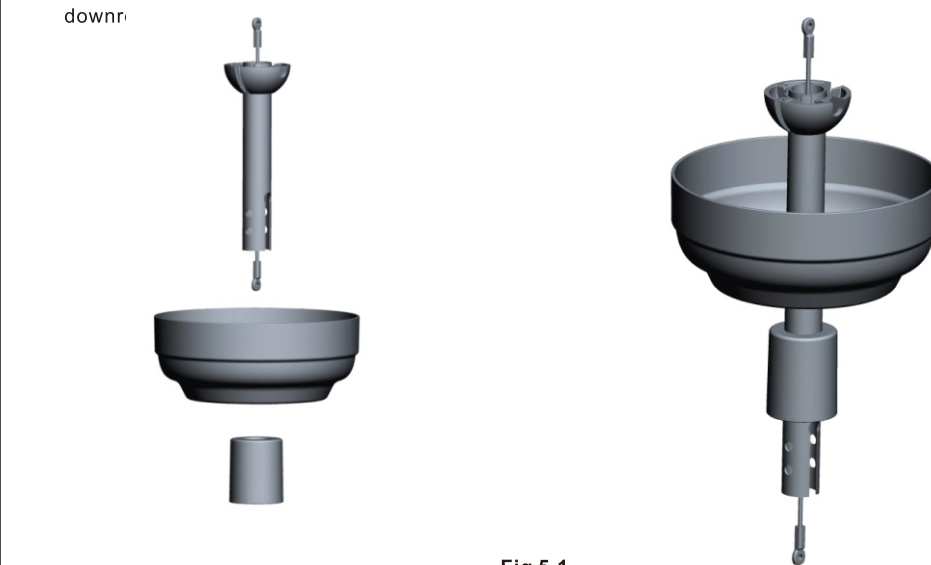

Fig 5.1
- Assemble downrod as pictured in Fig 5.1.